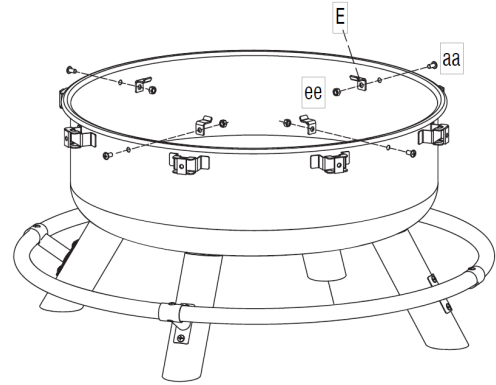

Fig.3
Assemble the 4pcs Lid Holder(E) onto the interior wall of the fire bowl with M6x15 bolt(aa) and M6 nut(ee). See Fig.3